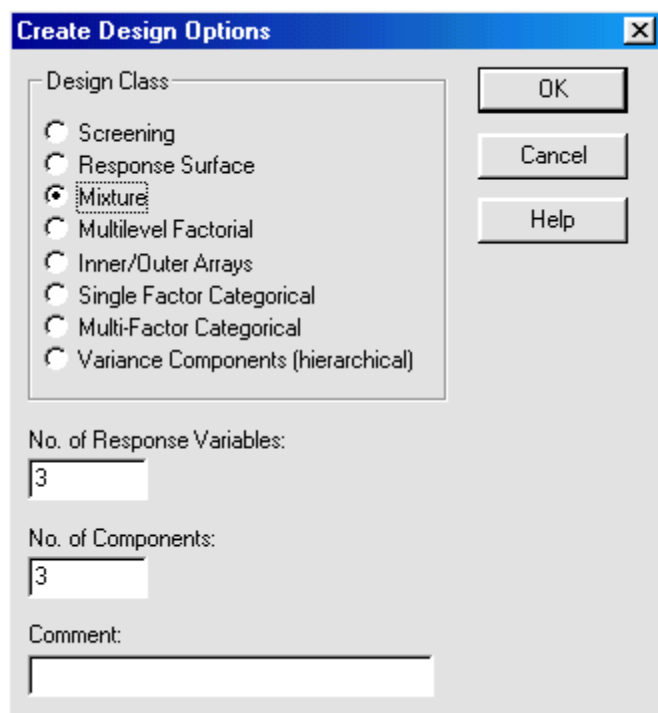

Figure 2-1. Completed Create Design Options Dialog Box
2. Choose the Mixture option, enter 3 (change the default) for the No. text box, accept 3 (the default) for the number of components, then enter a comment about the design into the Comment text box (see Figure 2-1).